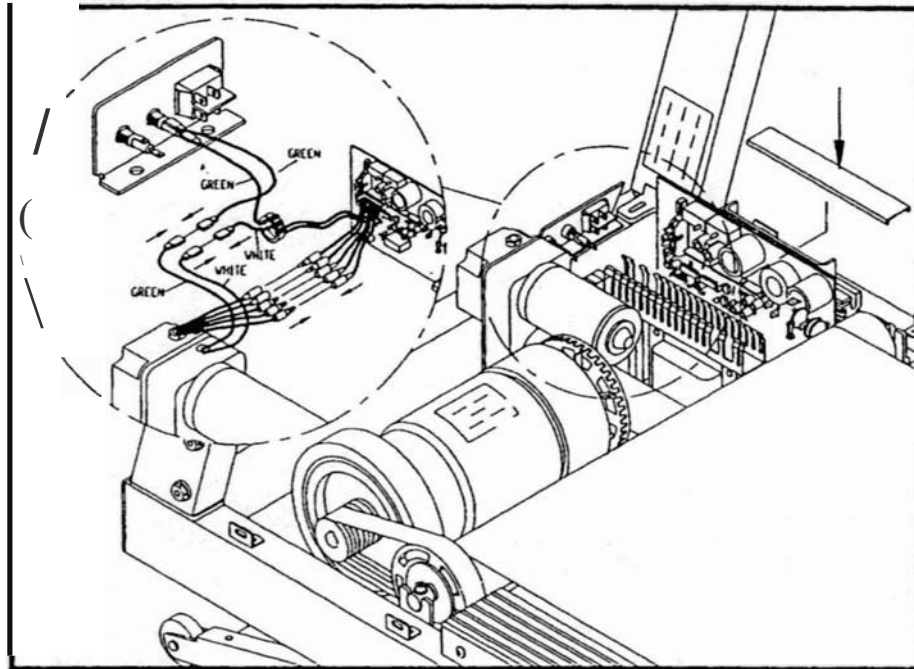

Fig.7
4. Plug all wires into their respective terminals. Then remove the sticker holding the inner elevation tube in place. (see Fig.7,8)